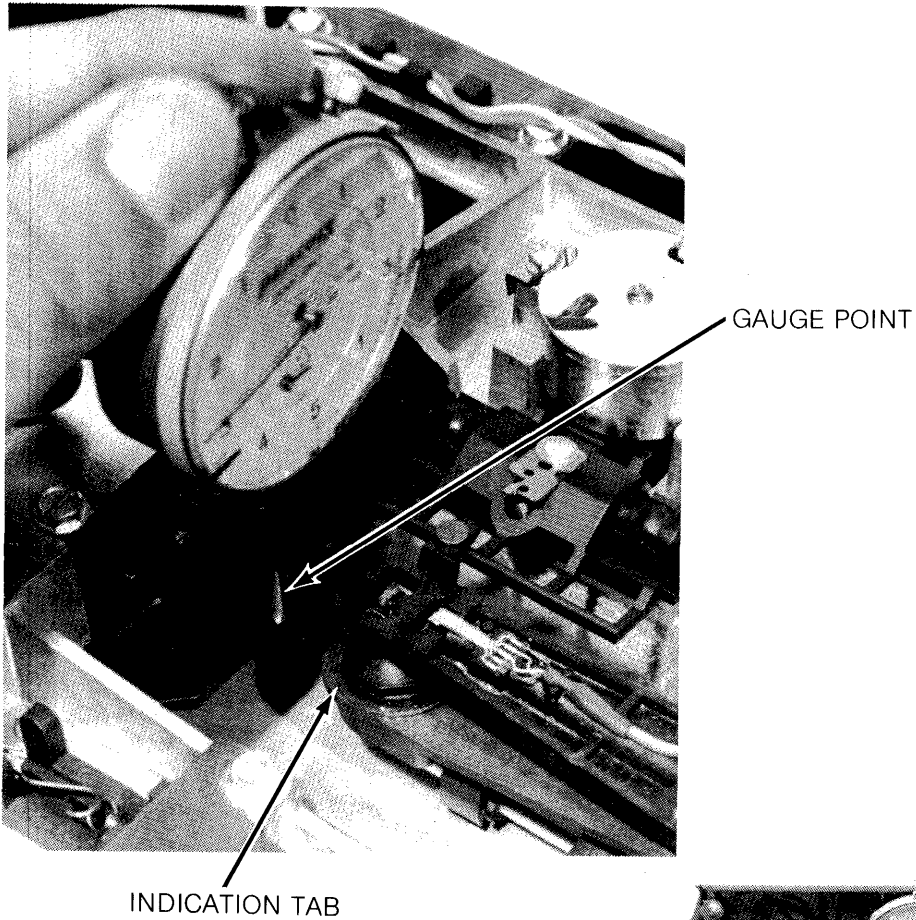

FIGURE 43. INSTALLATION CHECK
- e. The shaft that extends from the stepper motor can be used to move the head up far enough so the gauge point is indicating off the tab, on the side zero head as shown in Figure 43.